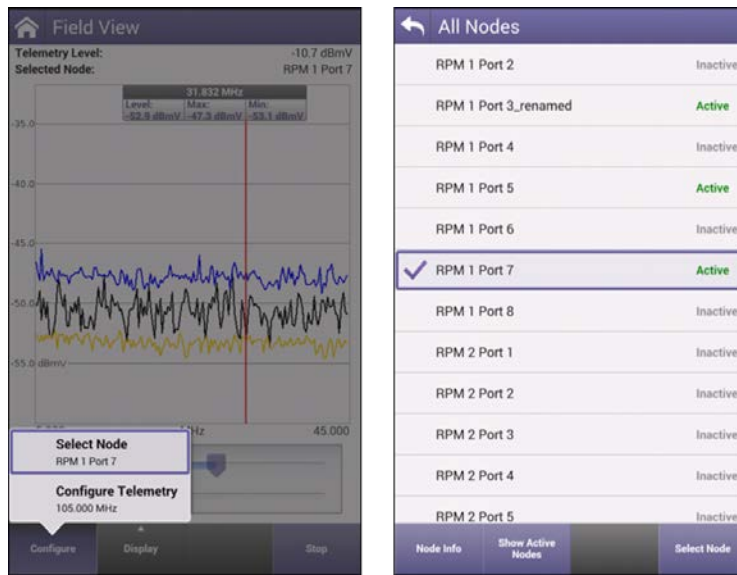

Figure 9 – ONX 630 Field View screen showing configure options
- d. Select Configure button from bottom left area of screen (Figure 9)
- g. Select Configure button from bottom left area of screen (Figure 9)